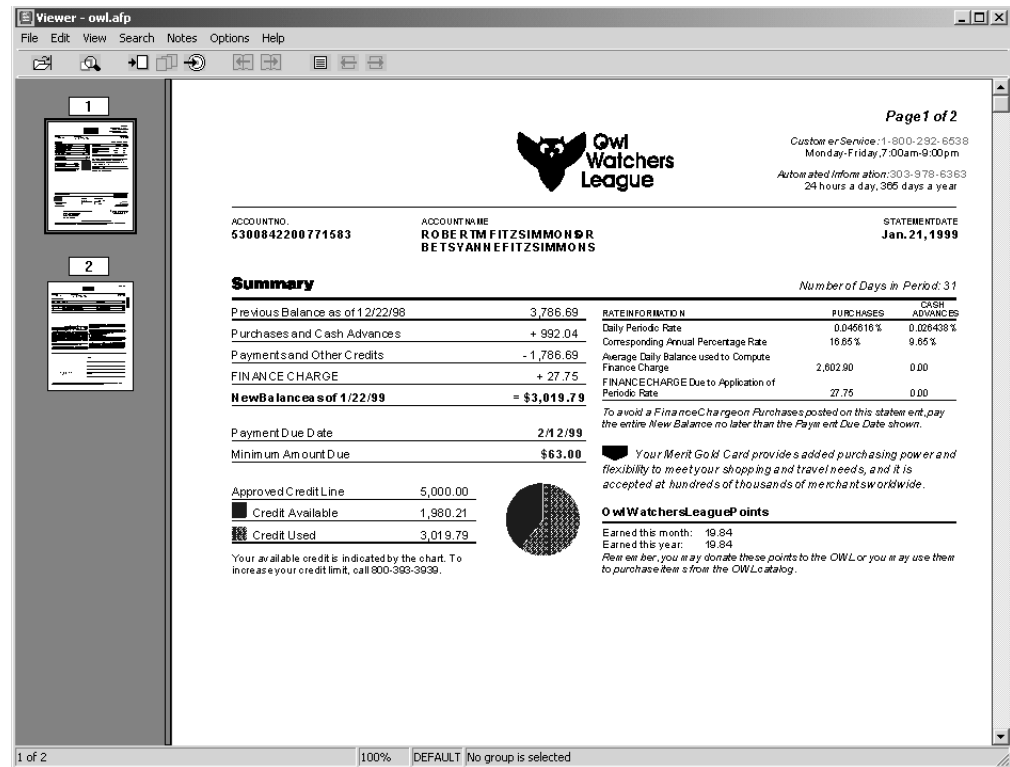

Figure 149. Spooled File Displayed
- See your spooled file on the display (see Figure 149).